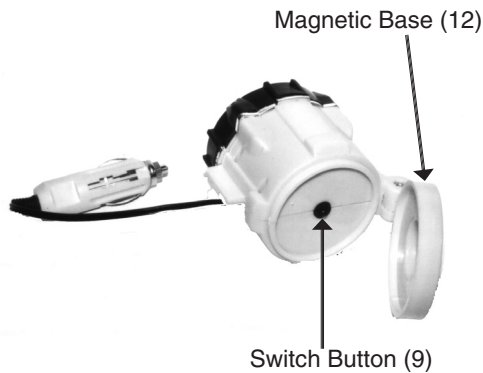

Figure 3
3. The Spotlight can be set to four different lighting functions: Rapid, Interval, Constant, or Off. Flip up the Magnetic Base (12). Push the Switch Button (9) located beneath the Magnetic Base (12) to rotate through each function-see Figure 3.
4. To operate the Car Adapter with Cord (14), plug it into your the lighter socket. Leave the Car Adapter with Cord (14) plugged in while using the Spotlight from your vehicle.